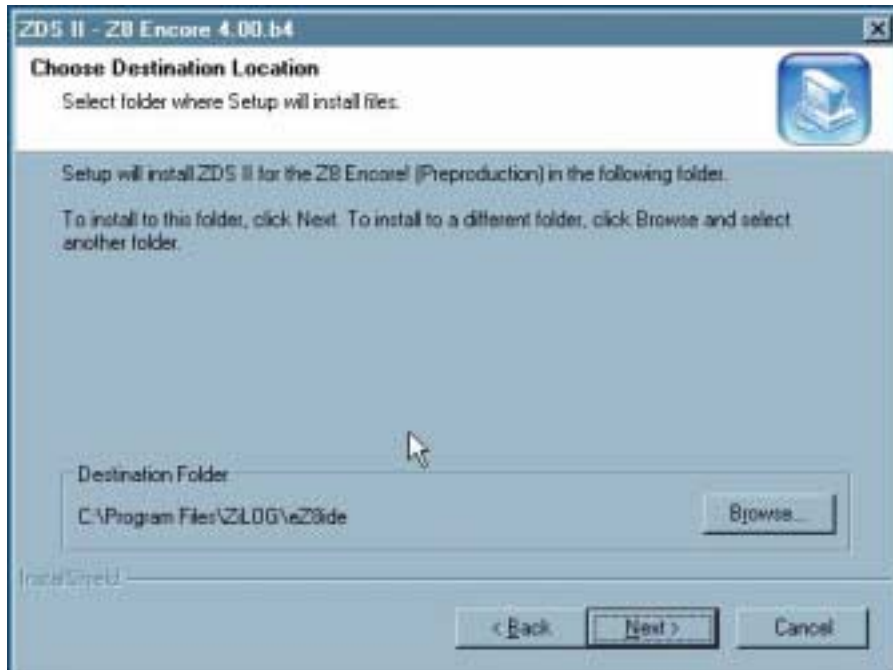

Figure 10. Installation Directory (Reference Only)
7. Select the default directory (Figure 10).